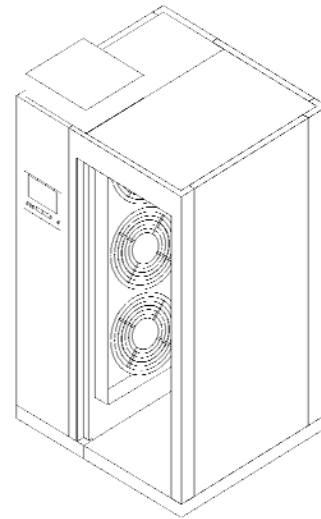

Fig 11
8. Assemble the compartment roof. Locate the cam locks in the grooves on the compartment roof and lower into place. When fitting the roof panel above a door jamb, make sure that the door heater leads exit through the roof panel. (Fig. 11 Lock and seal the roof into place as per the 'Panel Assembly Instructions'. (Refer to page 4)